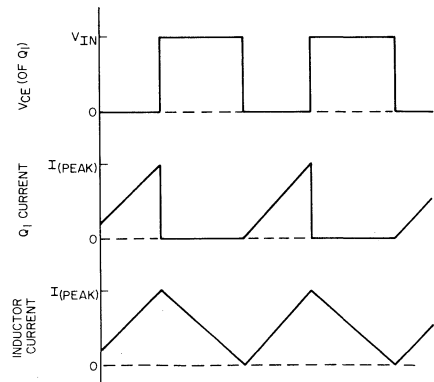

Fig.8 - Typical voltage and current waveforms for the switching regulator shown in Fig.7.
sults from the decrease in the collector current of transistor  $Q_1$  is clamped by the commutating diode  $D_3$  so that the current decays linearly through the winding. Positive feedback coupled from the secondary ( $L_2$ ) winding of transformer  $T_1$  holds switching transistor  $Q_1$  in the "off" state until the current through the transformer primary winding decreases to zero. The cycle is then repeated. Fig.8 shows the significant current and voltage waveshapes for the circuit. It is apparent from these waveshapes that switching losses occur only during turn-off.
Fig.12 shows the basic configuration for a switching regulator designed to operate from ac source voltages between 200 and 300 volts. Eqs. (1) through (5) and the waveshapes shown in Fig.8, given for the 120-volt switching-regulator ballasts, are also applicable to higher-voltage ballasts of the type shown in Fig.12. A unique feature of the higher-voltage circuits is that only the high-current switching transistor  $Q_1$  is required to have a breakdown-voltage capability sufficient to withstand the full value of the dc input voltage including transients applied across the  $V_{IN}$  terminals. All the transistors in the control circuit are low-voltage, low-dissipation types. The design for the higher-voltage ballast also features built-in short-circuit protection.